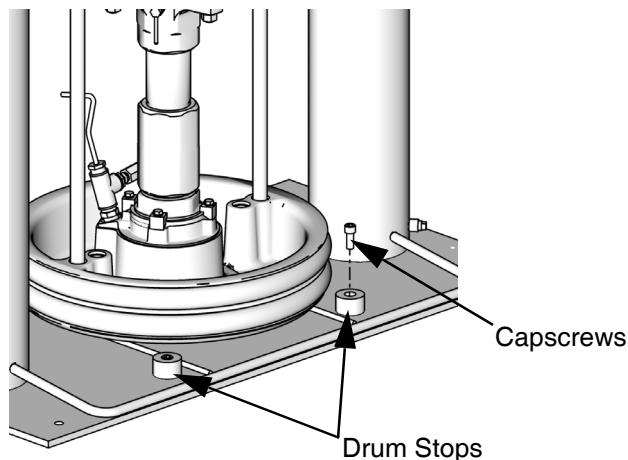

**FIG. 9: Disconnect Switch Terminal Block**
- Attach the ground wire to the ground stud inside the junction box (K).
- Refer to FIG. 9 and connect the wires from the power cord into terminals 4T2 and 6T3 on the disconnect switch terminal block.